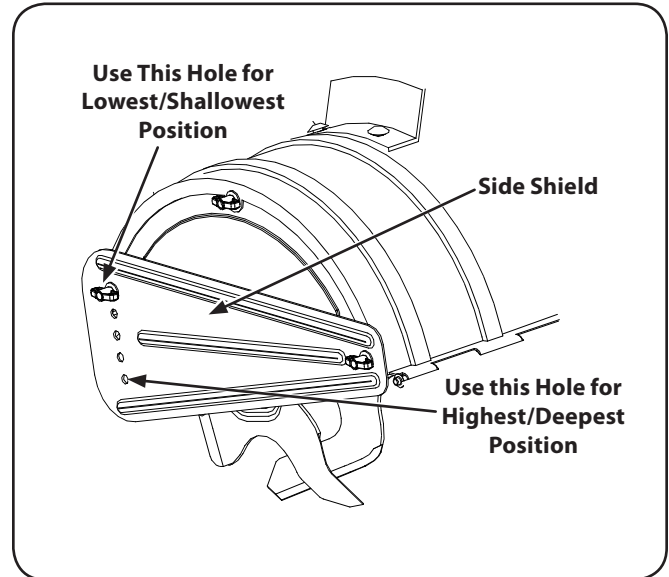

Figure 5-2
2. When breaking up sod and for shallow cultivation, use the setting which gives 1" of tilling depth (second hole from the top). Place the side shields in their lowest position. See Fig. 5-2.
7. To adjust the side shields, remove the wing nuts. Move the side shield to the desired position and replace the wing nuts. Tighten securely. See Fig. 5-2.